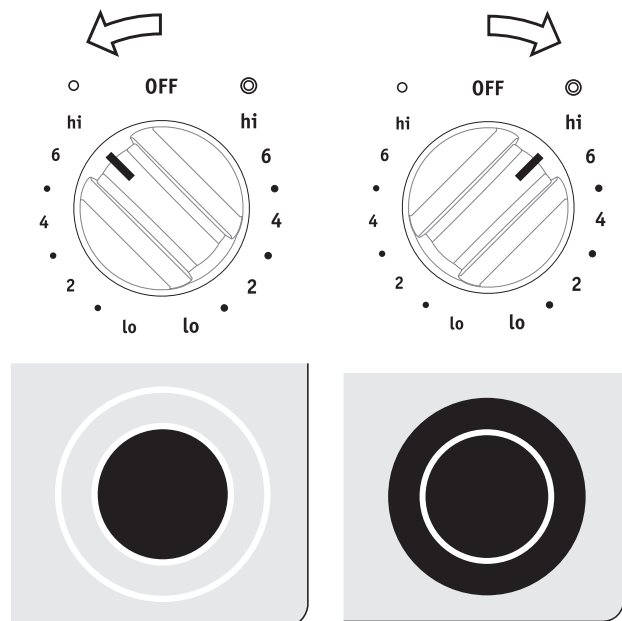

Figure 6: Inner element operation (L) and inner/outer element operation (R)
The cooktop is equipped with 1 or 2 dual radiant surface elements. Symbols around the knob are used to indicate which element of the dual radiant element will heat. The symbol with the center circle blackened indicates that only the inner coil will heat (See Figure 6). The symbol with both elements blackened indicates that both inner and outer elements will heat (See Figure 6). You may switch from either element setting at any time during cooking.
2. Push in and turn the control knob to the inner element symbol for smaller cookware or to inner and outer element symbol for larger cookware (See Figure 6). Turn the knob to adjust the setting if needed. Start most cooking operations on a higher setting and then turn to a lower setting to finish cooking. Each surface element provides a constant amount of heat at each setting. A glowing red surface heating area extending beyond the bottom edge of the cookware indicates the cookware is too small for the surface heating area.